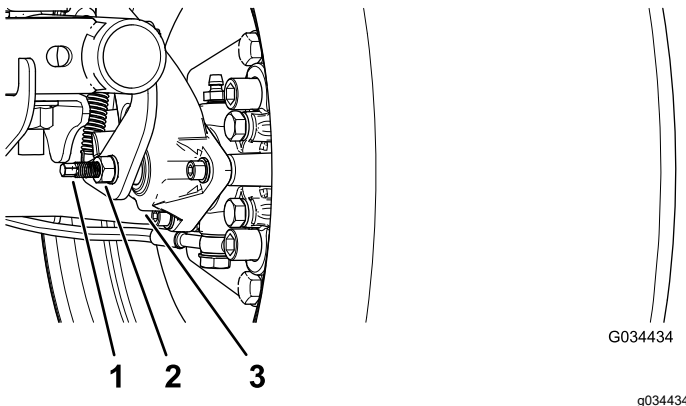

Figure 63
3. Using 2 wrenches, hold the adjusting post on the caliper in place with 1 wrench, and loosen the jam nut 1/4 turn with the other wrench (Figure 63).
4. While holding the adjusting post and the jam nut in place, turn the adjusting post in to tighten (Figure 63).
5. While holding the adjusting post and the jam nut in place, back off 1/4 turn (Figure 63).
6. While holding the adjusting post and the jam nut in place, tighten the jam nut (Figure 63).